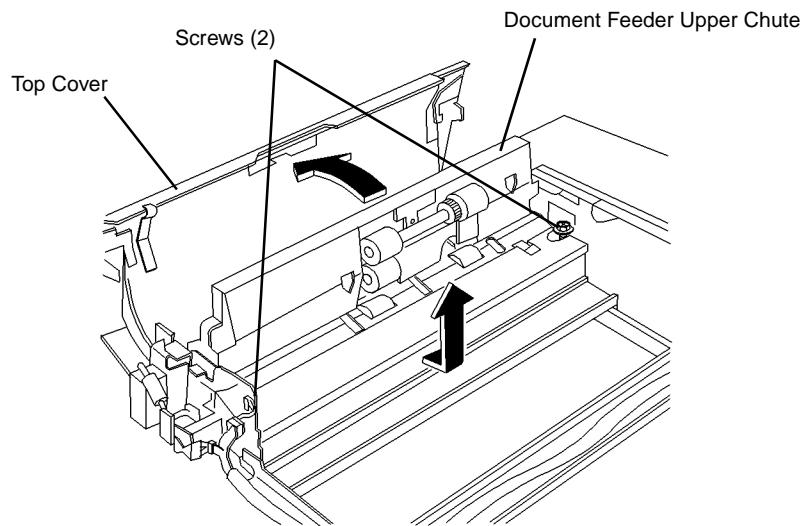

Figure 1 Removing Lower Chute Assembly
3. Remove Lower Chute Assembly (Figure 1).
- b. Loosen screws (2).